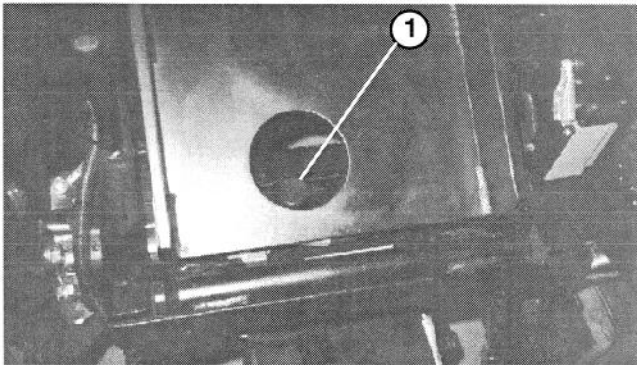

Figure 12
3. Clean area around reservoir breather cap (Fig. 12).